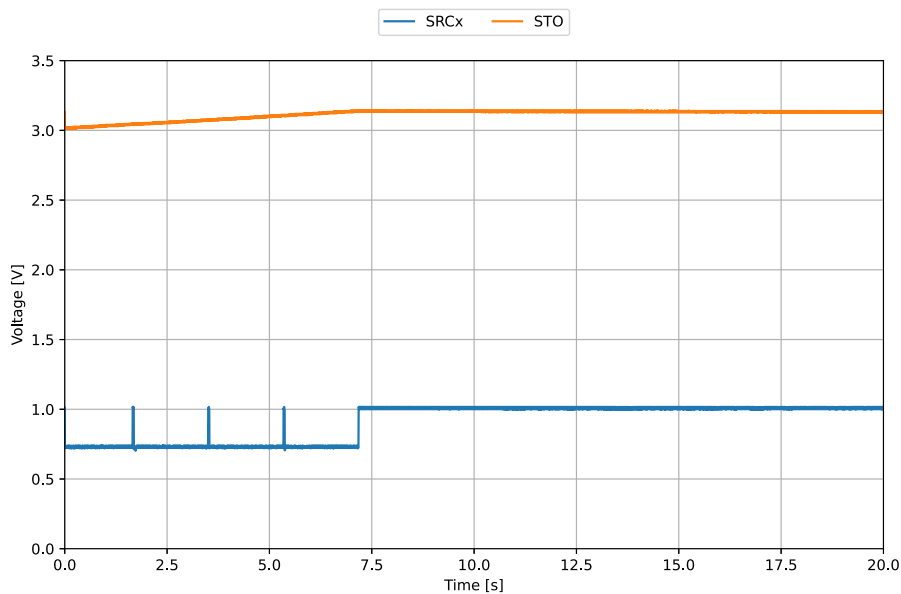

Figure 6: AEM13920 thermal monitoring protecting the storage element
- When R_{TH} is hot enough (above 70°C, near 7 s on Figure 6), the boost converter stops: